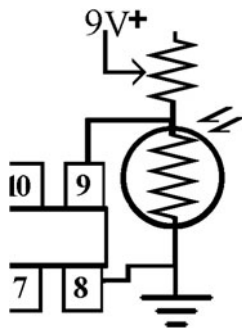

Figure L39-9
11. Consider the schematic presented in Figure L39-9.